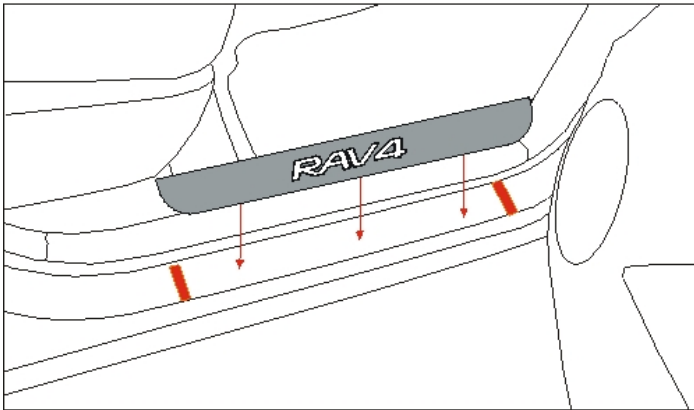

Fig. 5-1
- (d) Align part uniformly to the outer edge of the vehicle sill area between the tapes. (Fig. 5-1)